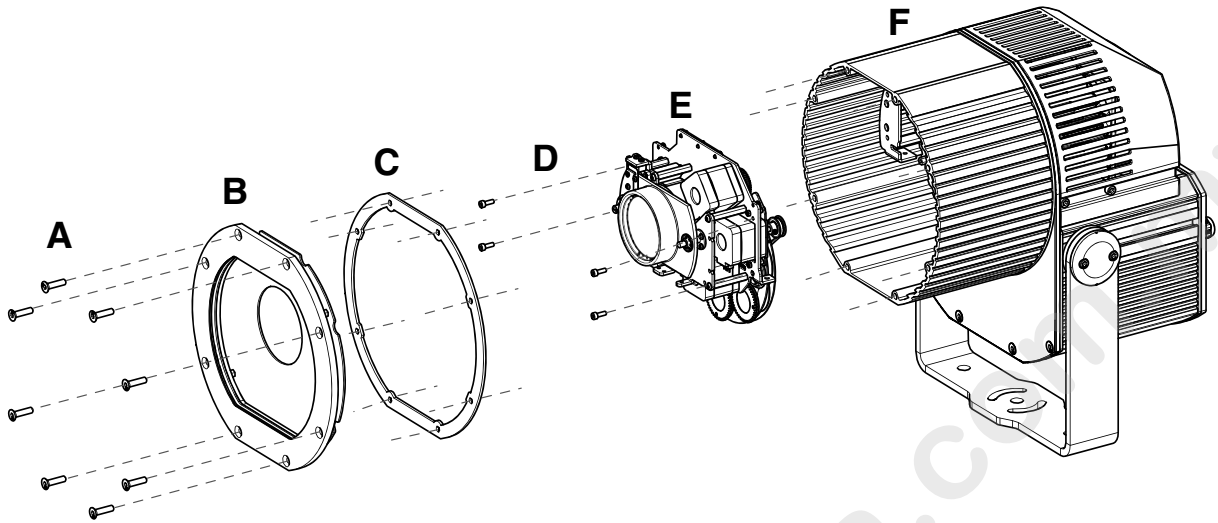

Figure 1: Removing the front cover and effects module
3. See Figure 1. Remove the eight Allen screws **A** that hold the front cover **B**, then remove the front cover **B** and front cover seal **C** from the fixture housing **F**.
2. See Figure 1 on page 8. Using a T-bar or long Allen key, reinstall the four effects module retaining screws **D**.